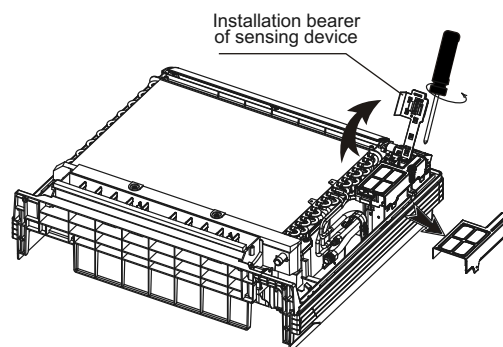

Fig.43-10
- The installation bearer of sensing device rotated to another side, and then takes off cover of electrical box. (Take off the electrical box if the capacity is 18000btu/h as well as using network function.) (Refer to Fig.43-10)